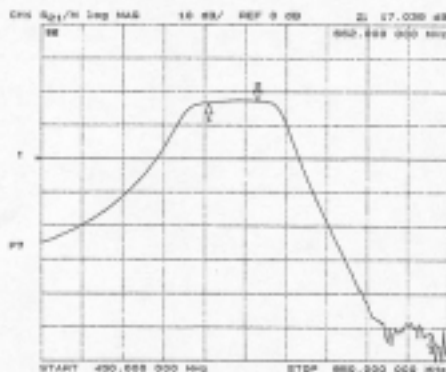
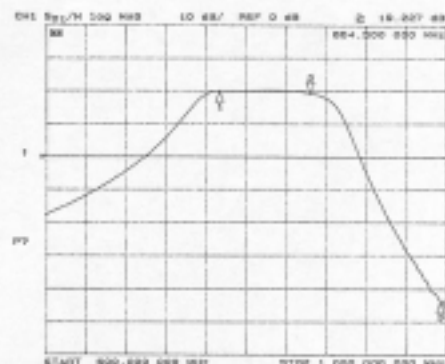

Fig. 1 (Band A)
Fig. 2 (Band B)
5. Adjust C420, C419, C418, C416, and C417 to obtain response in fig. 1 (Band A) or fig. 2 (Band B).